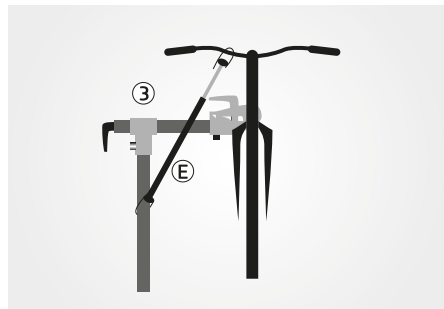

Fig. 3
- Please adjust the angles BEFORE loading the bike and make sure all locking number (**3**), (**5**) quick release handles are tightened in advance. And also can rotate direction as you needed use number (**3**), (**5**). If adjusting the height or rake of the stand after loading a bike we recommend that 2 people are used. To stabilize the front wheel, you can insert the front wheel stabilizer (**E**) **Fig. 3**, between the handlebars of the front wheel and the telescopic bar.